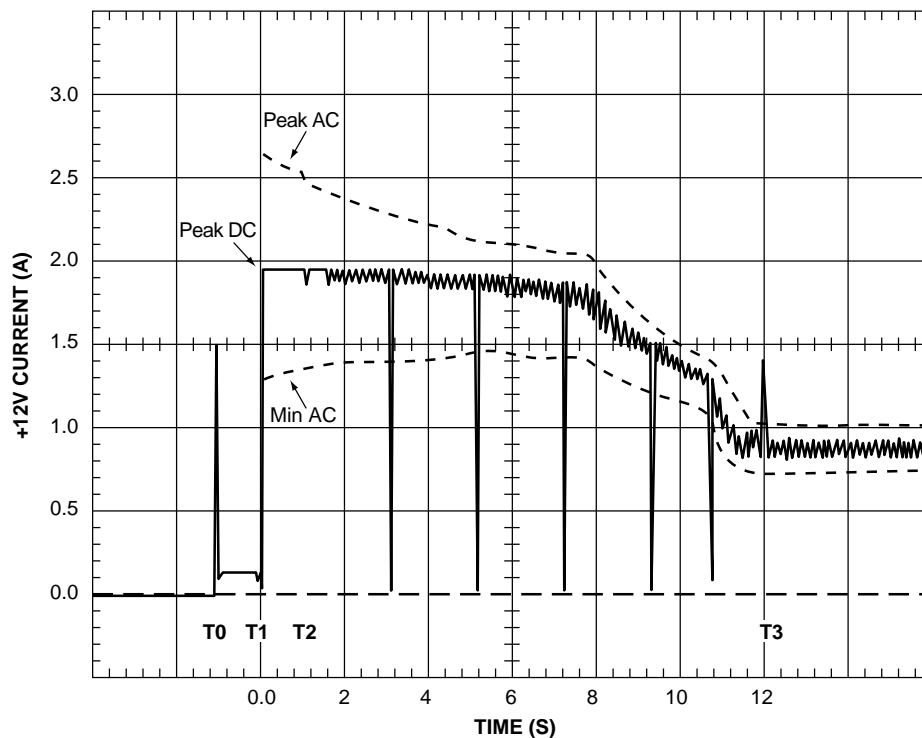

Figure 3. Typical Barracuda 9 drive +5 V and +12 V current profile
- [3] See +12V current profile in Figure 3.
Figure 3 identifies the drive +5 V and +12 V current profile. The current during the various times is as shown: